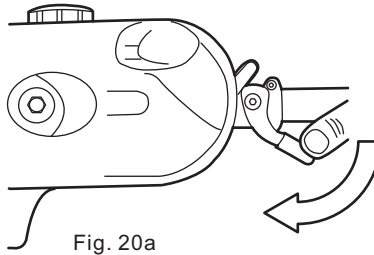

Fig. 20a
1. Press the locking lever (D8) downward and hold it in position. (See Fig. 20a)